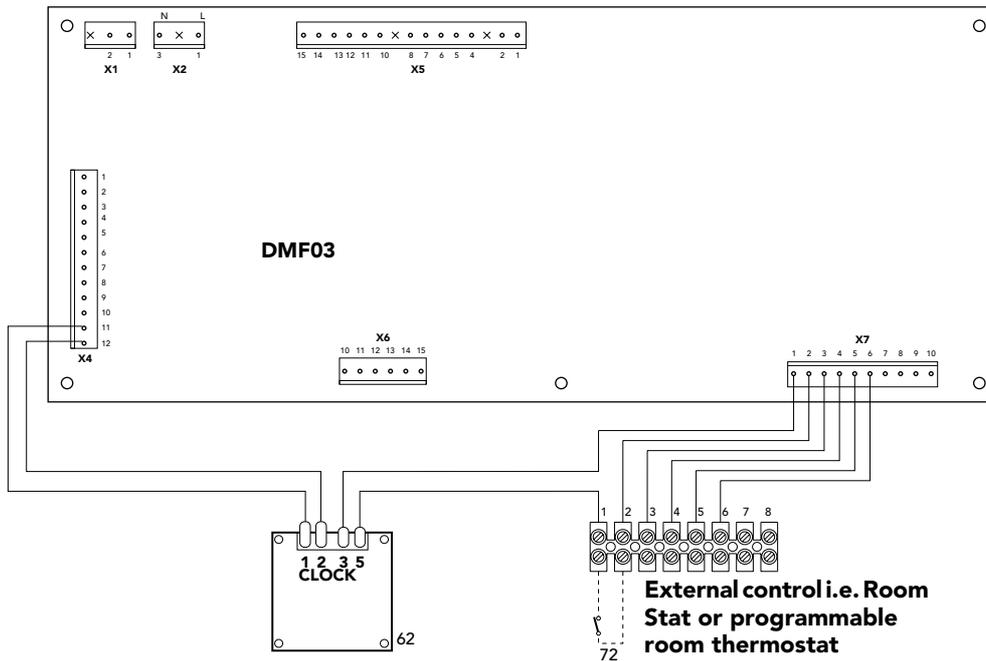

Fig. 21b
3.12 Installing a room thermostat (72) (fig. 21b)
Open the electrical box on the base of the appliance and remove the “jumper cable” between terminals 3 and 4. Connect the room thermostat (72) as shown in figure 21b.